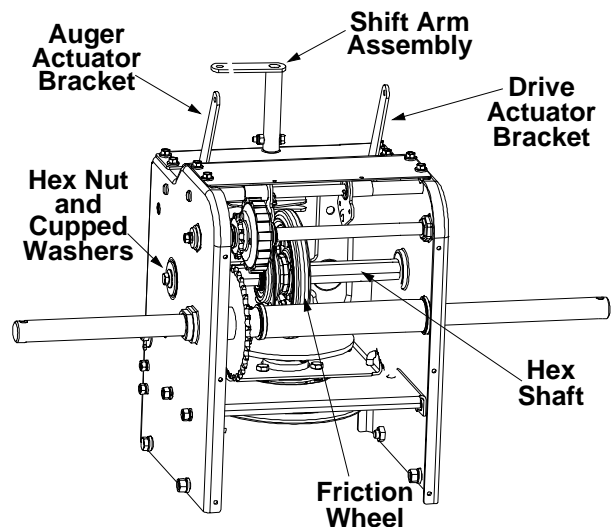

Figure 14 Viewed from the underside of snow thrower
Oil or spray lubricant into bearings at wheels at least once a season. Remove wheels, clean and coat axles with a multi-purpose automotive grease. See Figure 14.
Remove auger bolts on auger shaft, see Figure 14. Oil or spray lubricant inside shaft.
Lubricate the hex shaft with a good all-weather multi-purpose light grease at least once a season or after every 25 hours of operation (available from an authorized service dealer or an automotive store.) See Figure 14.
5. Using a 7/8" wrench hold the hex shaft and remove the hex nut and cupped washer and bearing from left side of the frame. See Figure 14. Hold the friction wheel assembly, and slide the hex shaft out of the unit toward the right hand side.